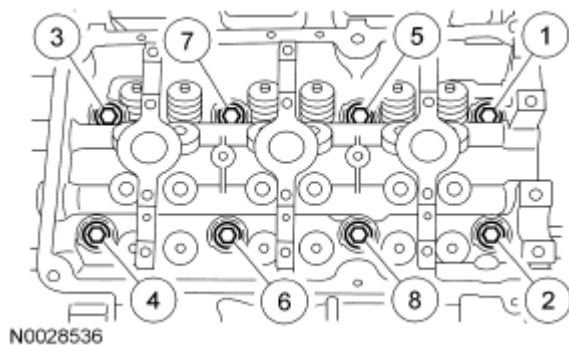

Fig. 88: Identifying Removing Sequence Of Bolts
8. Remove the bolts in the sequence shown in **Fig. 88**.